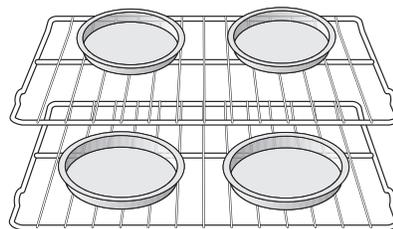

Figure 14: Baking on multiple levels
- When baking using two oven racks, position bakeware as shown in Figure 14. Allow at least 2 inches (5 cm) of space between bakeware for proper air circulation.